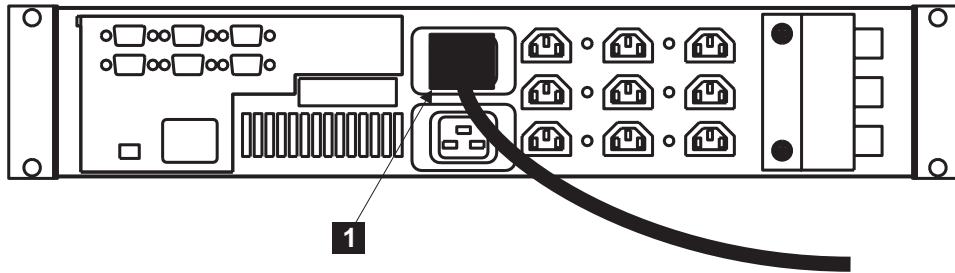

Figure 89. Installing the 2145 UPS power cable
9. At the back of the 2145 UPS, plug the 2145 UPS main power cable (**1** in Figure 89 on page 128) into the power socket.